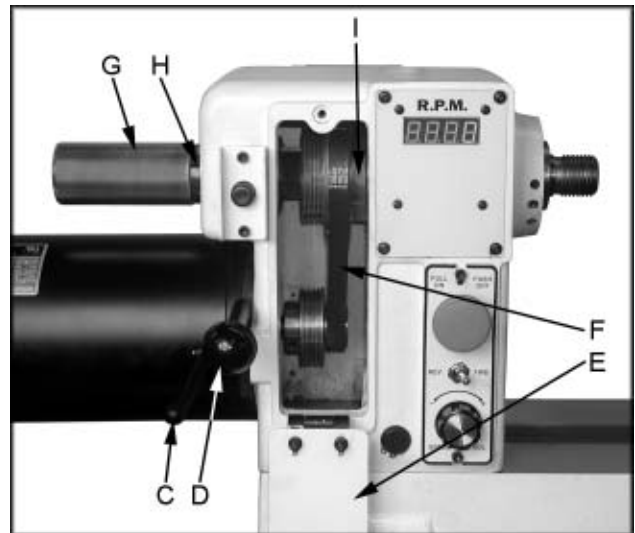

Fig. 25
2. Loosen the locking handle (C, Fig. 25), and lift up on the tensioning handle (D, Fig. 25) to remove tension from the poly v-belt.
3. Open door (E, Fig. 25), and remove the belt (F, Fig. 25) from the lower pulley.
4. Loosen two set screws in the handwheel (G, Fig. 25) and remove.
5. Loosen socket head cap screw enough to unthread the clamping nut (H, Fig. 25).
6. Loosen two set screws in the right hand pulley (I, Fig. 25).